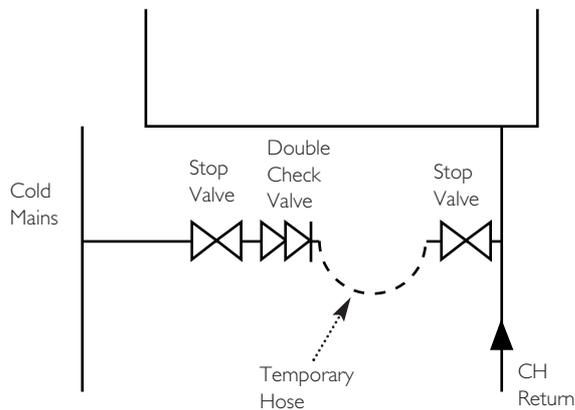

Fig. 10
6.6 System Filling and Pressurising (Fig. 10)